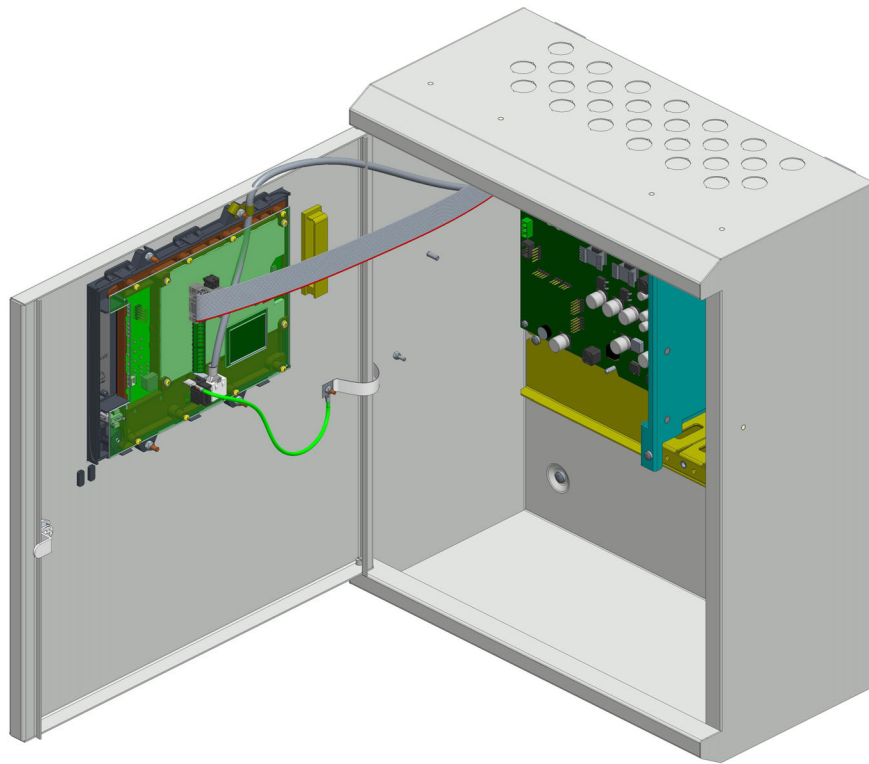

Fig. 3: FC702D and FC718D
- FC702D - see Figure 3
- FC718D - see Figure 3